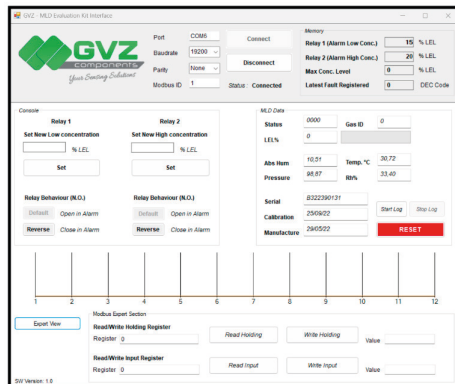

Figure 2
1. Run MLD-EK software before connecting the MLD (Figure 2)